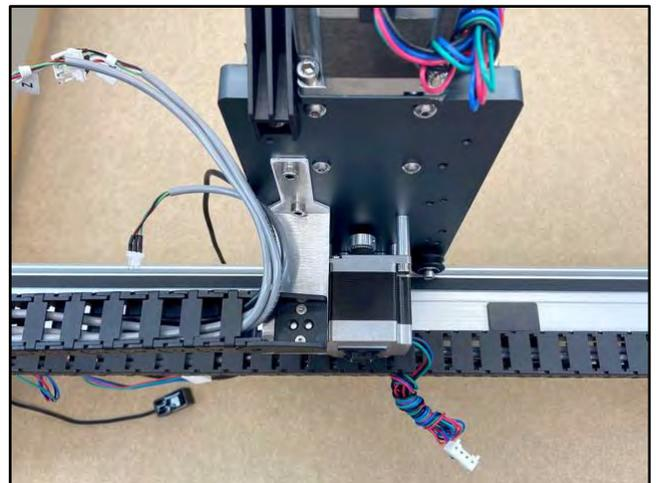

Figure 19
1. Secure the X-Axis drag chain to the X-Axis head bracket on the back of the HDZ. See **Fig. 19**.
- a. Use a 2mm hex key and two (2) M3×6mm FHS to secure.